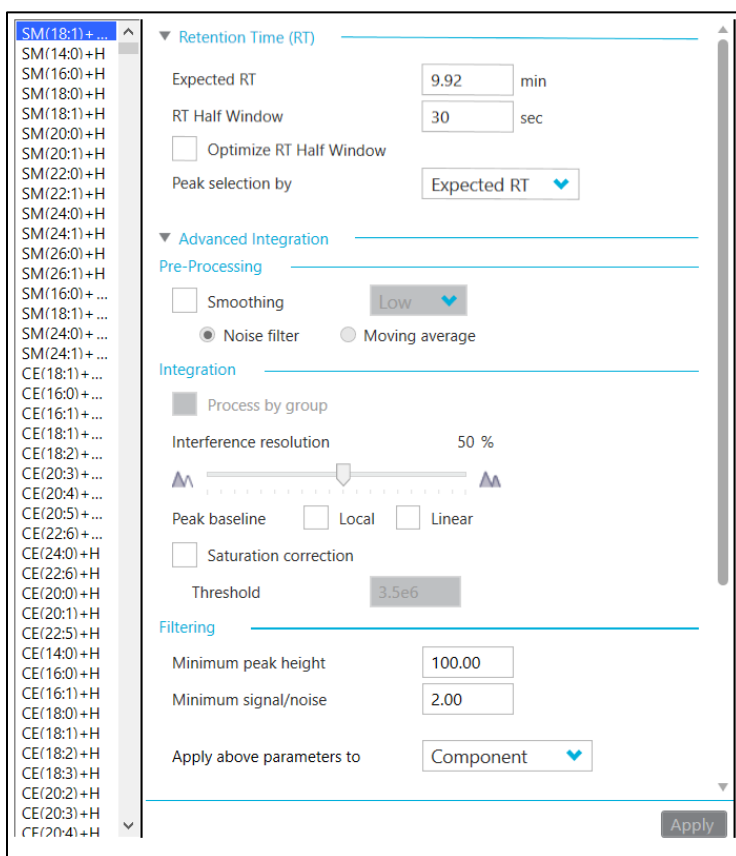

Figure 8-1. Integration Defaults for Data Processing the Targeted Lipid Profiling Data.
2. Click Process Method then Edit Embedded Method. Click Integration in the left hand panel. Set the integration defaults as shown in **Figure 8-1**.